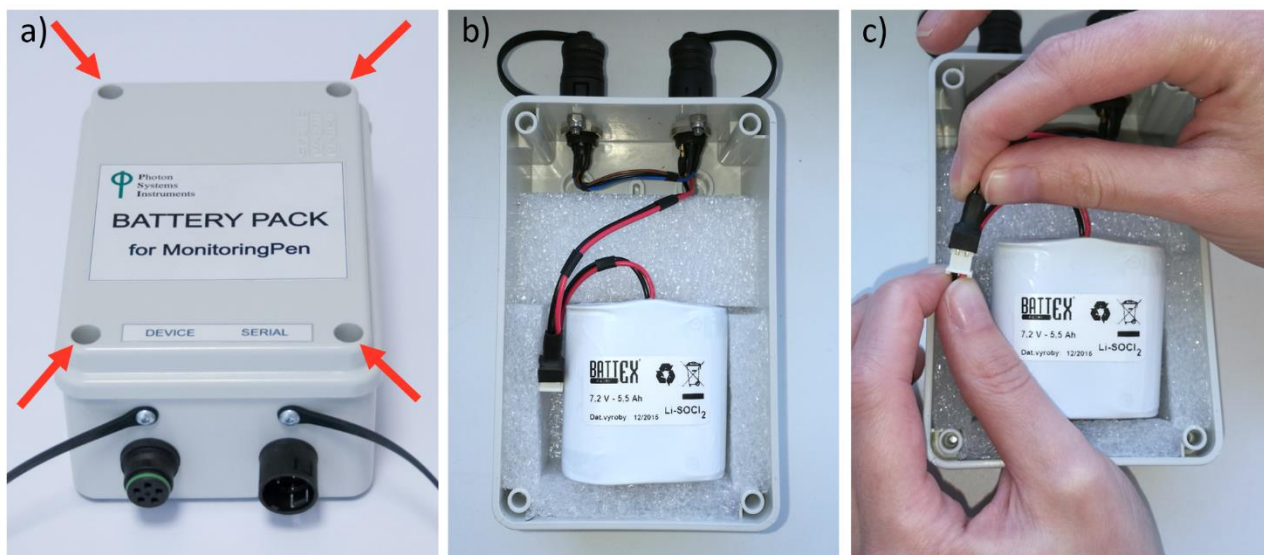

Fig. 41 Extended temperature range battery pack: battery replacement.
1. Remove 4 screws in the corner of the case and remove the battery pack cover (Fig. 41 a, b).
2. Disconnect the internal battery from the cable (Fig. 41 c).